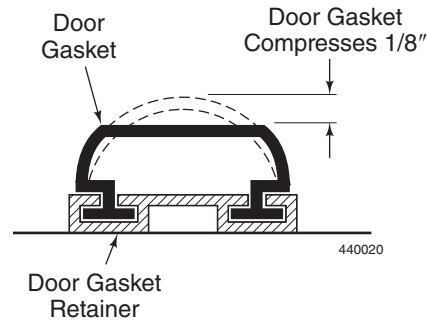

Figure 31
1. With the door in the closed position, the gasket should be compressed 1/8". Check the gasket at the four corners of the door for proper compression. See Figure 31.